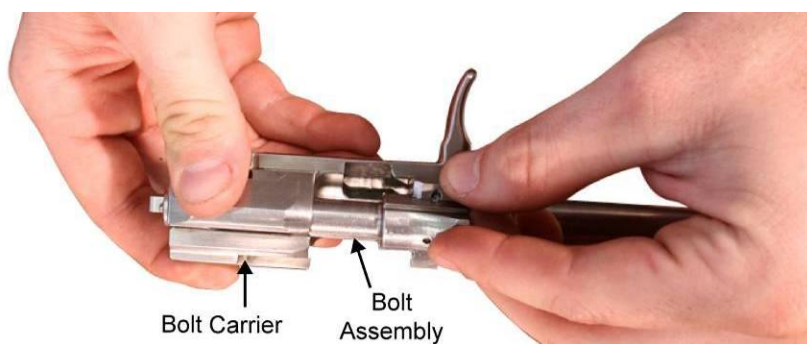

Figure 1. Pushing the Bolt Assembly into the Bolt Carrier.
1. Push the bolt assembly into the bolt carrier. Refer to Figure 1.